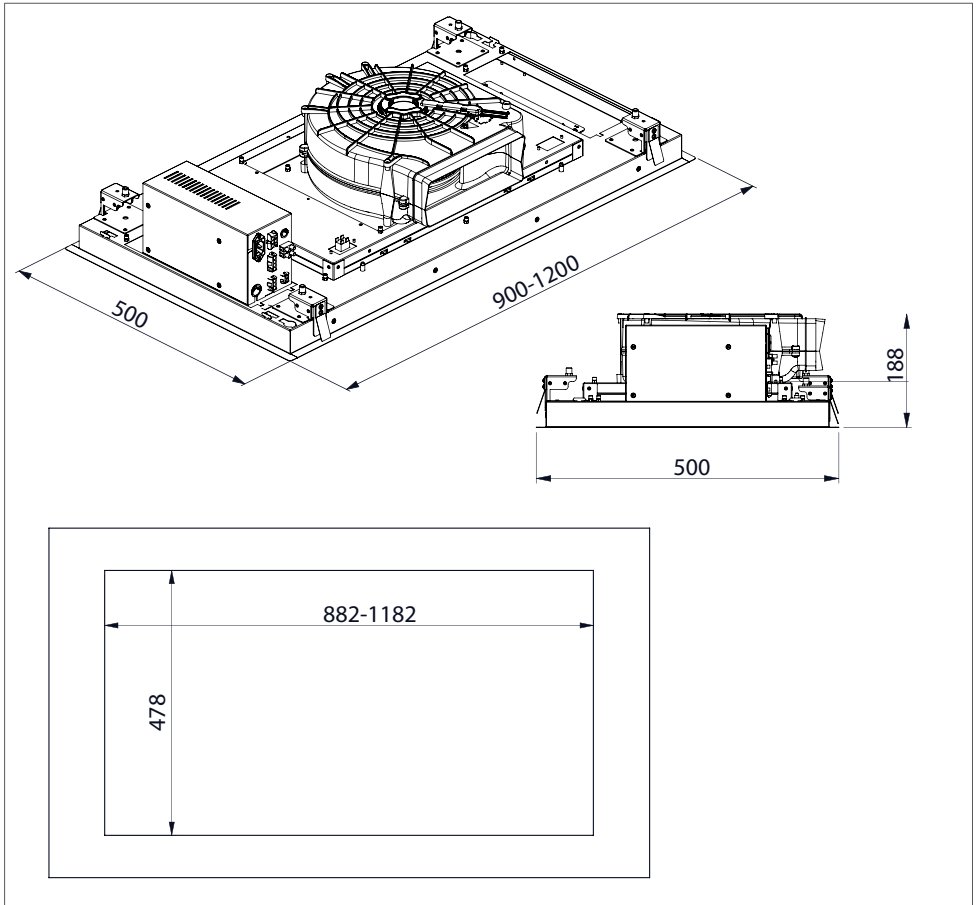

Fig.1
- Drill a hole in the ceiling to accommodate the appliance, referring to the dimensions indicated in figure 1.